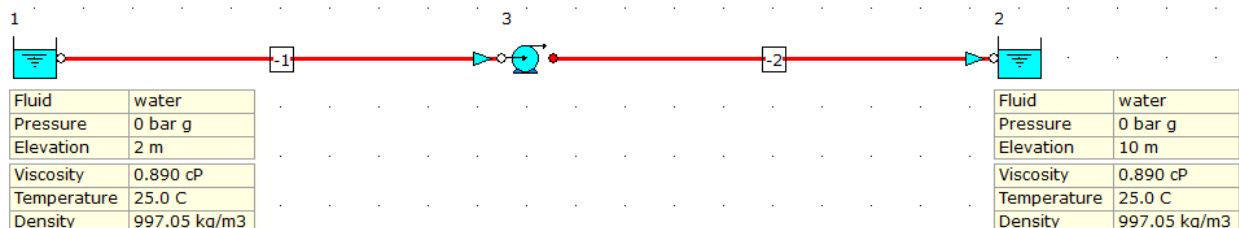

**Figure 49: Element Properties Dialogue Box.**
51. Now we will select the field titled *Properties* from the Input list. An *Element Properties* dialogue box will appear (Figure 49):